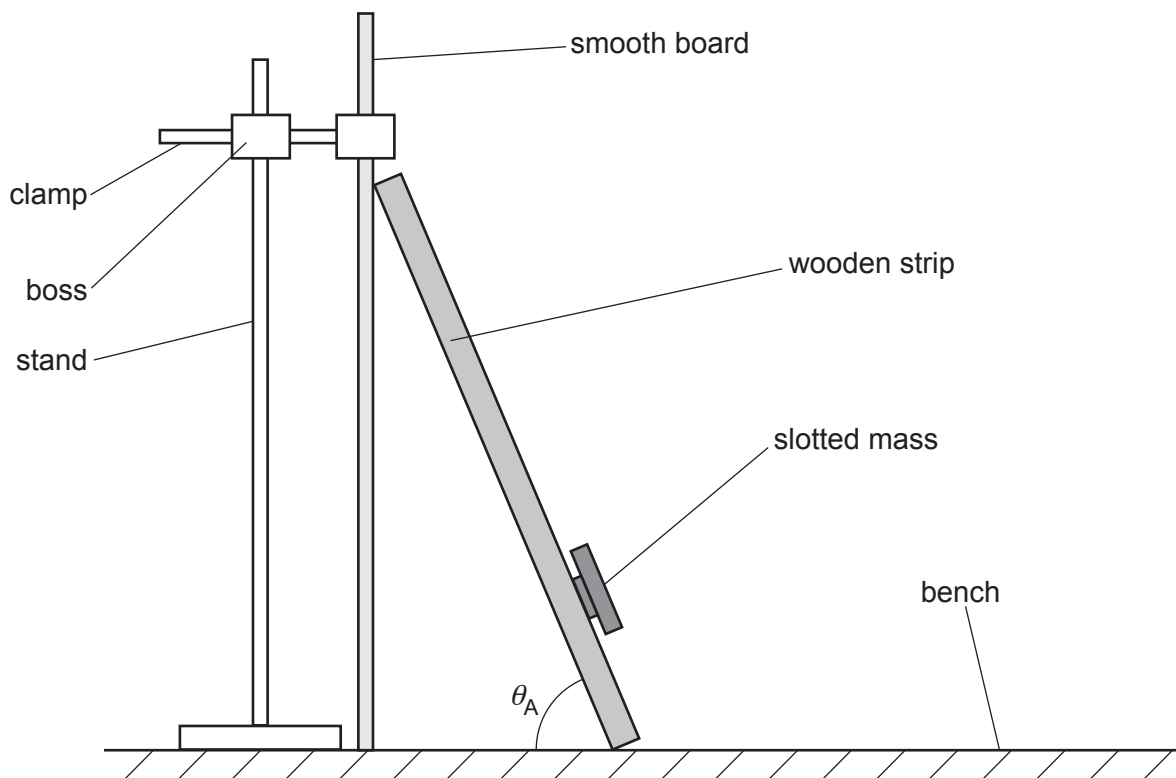

Fig. 2.2
- (ii) You have been provided with a smooth board. Support the board vertically on the bench using the stand, boss and clamp, as shown in Fig. 2.2.
- Lean the strip against the smooth board with the slotted mass nearer the lower end, as shown in Fig. 2.2.
- The angle between the strip and the bench is θ_A , as shown in Fig. 2.2.